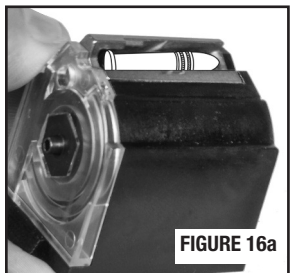

FIGURE 16a
- Push the cartridge down and back fully to the rear of the magazine toward the clear back panel (FIGURES 16a and 16b on the following page).
- Insert the cartridges fully to the rear of the magazine toward the clear back panel (FIGURES 16a on the previous page and 16b).